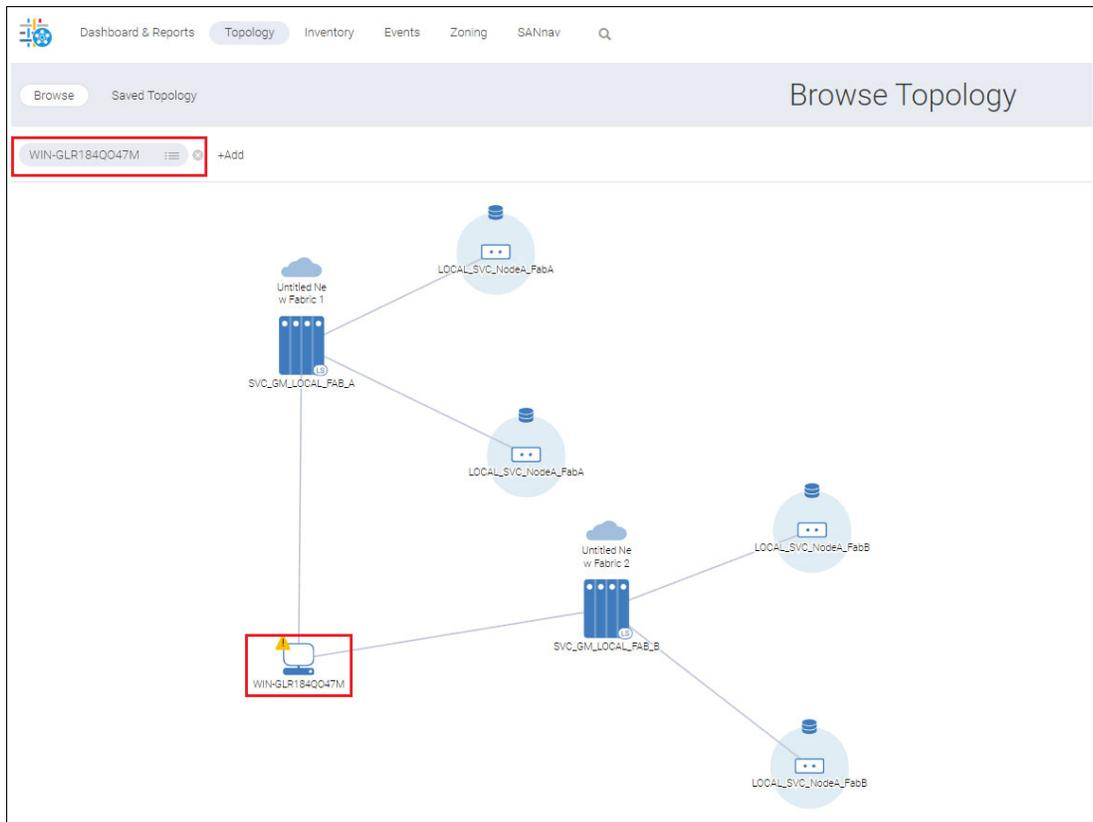

Figure 5-95 Showing the host in a topology
- The Browse Topology window shows a pictorial view of the fabric from the context of the chosen storage. The hostname is shown in the context navigation pane. You can see the host, along with all paths to the storage devices that the host connects to (Figure 5-95).